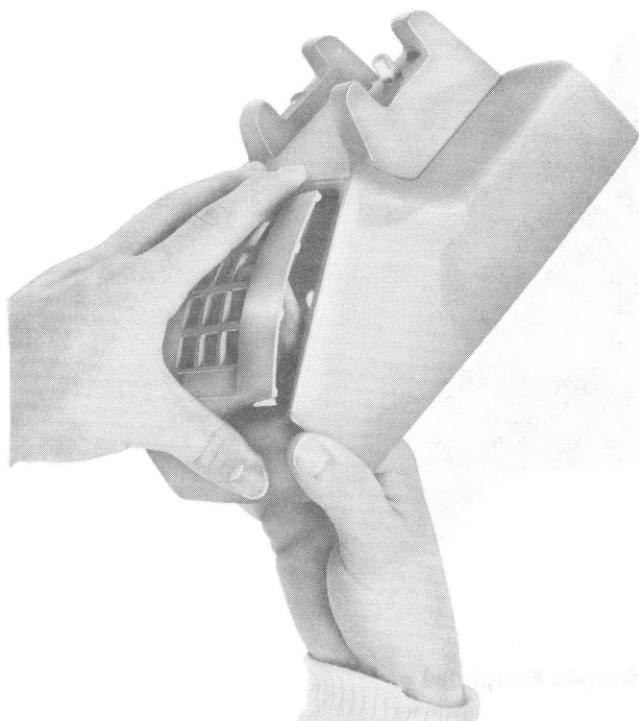

Fig. 5—Removing the Snap-In Faceplate (Housing Removed)
(1) Turn housing on side and place one hand in front of the faceplate holding the housing securely (Fig. 5).
(2) With the other hand press firmly on the back of the faceplate until the lower tab snaps out of the lower housing slot
(3) Remove the upper tab from the upper housing slot. ♦